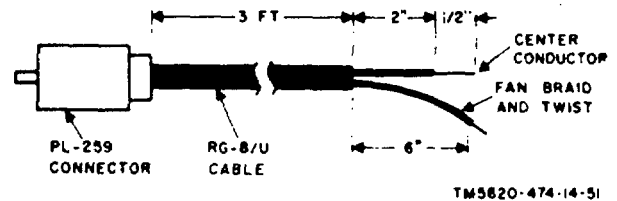

Figure 51. Test cable No. 6, construction details.
f. Test Cable No. 6 (fig. 51). Test cable No. 6 is used to connect the output of the transmitter to the input of the AN/URM120 when transmitter output power is tested. One cable is required.